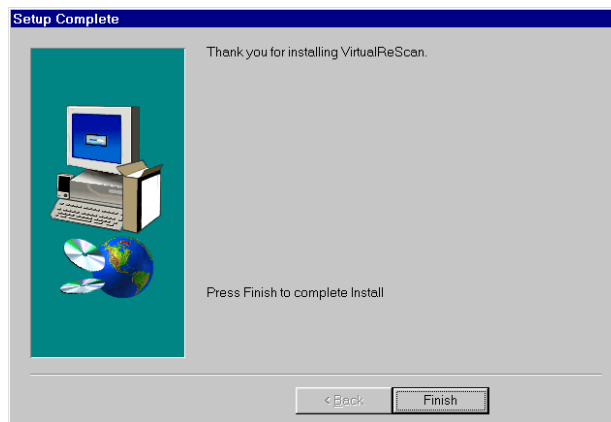

Figure 4. Setup Complete Dialog Box
- 5 Click Next. The installation begins, and a progress indicator stays in view until the process is done. When the VRS installation finishes, the Setup Complete dialog box displays, similar to Figure 4.